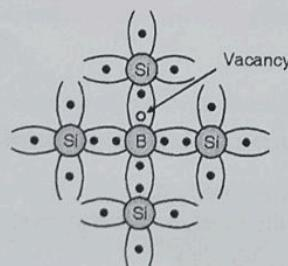

Fig. 1.2.3 : p-type semiconductor
1.2.2(B) p-Type Semiconductors
- As shown in Fig. 1.2.3 boron (B) has been added as impurity which has three electrons. Each B atom tries to form covalent bonds with surrounding four Si atoms and falls short of one electron for completing four covalent bonds.